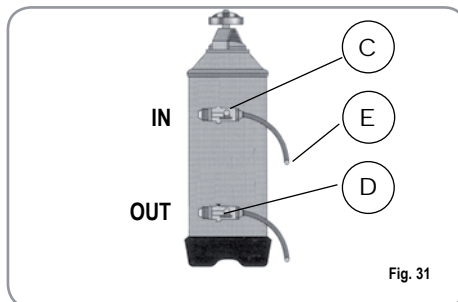

Fig. 31
1) Turn the machine off and place a container large enough to contain at least 5 litres under tube E (Fig. 31).